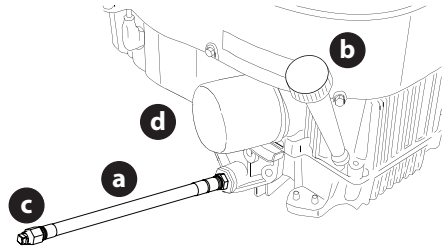

Figure 36
1. Locate the oil drain hose (a) on the side of the engine (Figure 36).
2. Place an appropriate oil collection container with at least a 2.5 quart (2.37 liter) capacity below the opening of the oil drain hose, to collect the used oil. Remove the oil fill cap/dipstick (b) from the oil fill tube (Figure 36).
3. While holding the free end of the oil drain hose over the oil collection container, unscrew the square head hose plug (c) from the end of the oil drain hose (Figure 36). Drain the engine oil into the collection container.
5. Remove the oil filter (d) and drain into the collection container (Figure 36).
6. Replace the oil filter (d) and refill the engine with new oil as instructed in the Engine Operator's Manual (Figure 36).